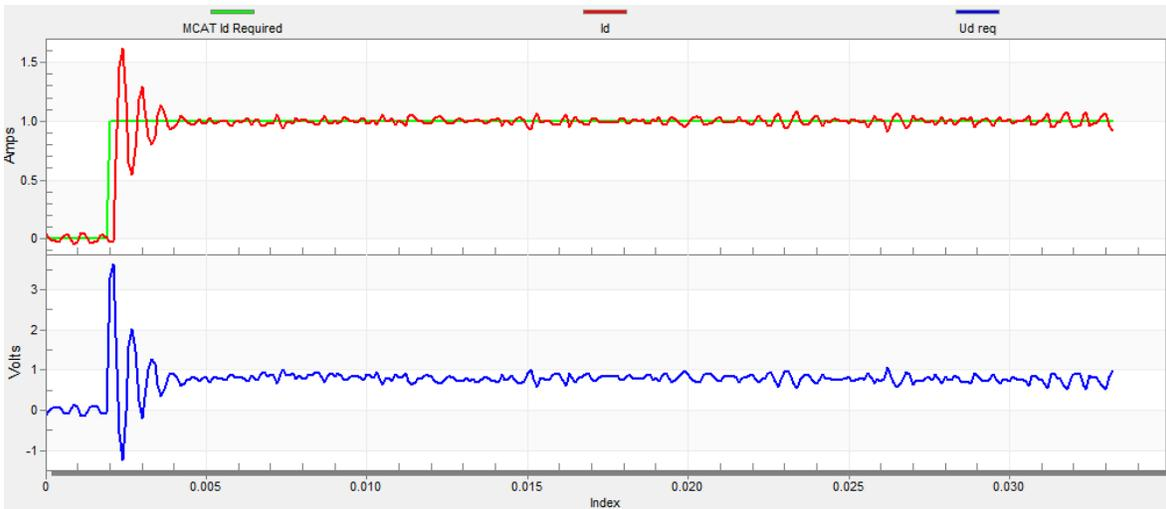

Figure 45. Fast step response of the Id current controller
- The loop bandwidth is high (700 Hz) and the response time of the I_d current is very fast, but with oscillation and overshoot (see Figure 45).